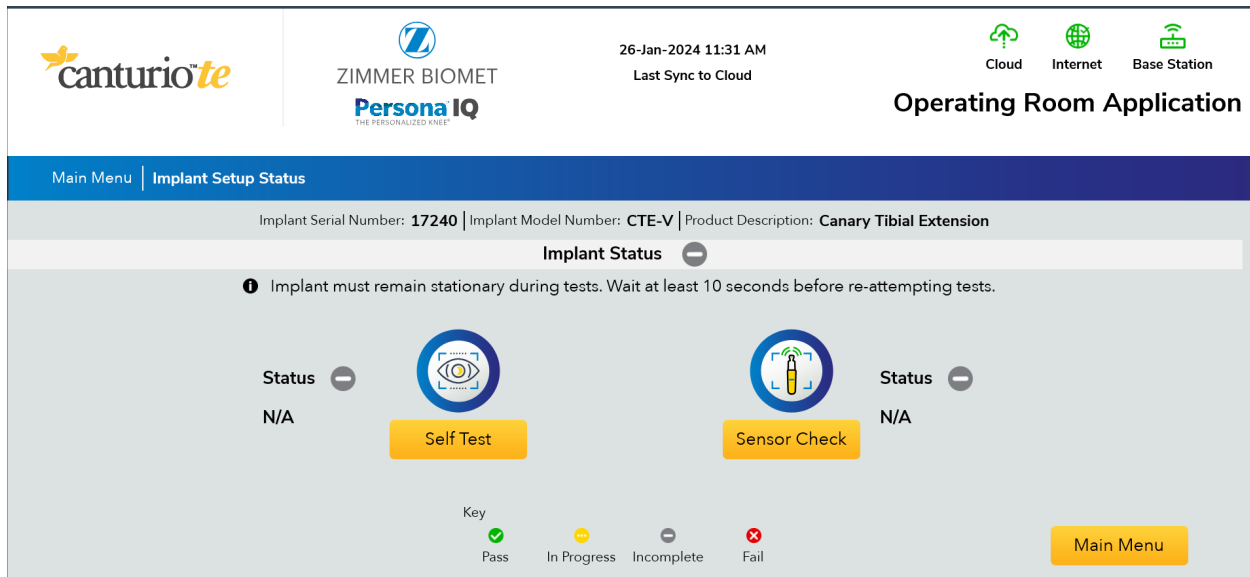

Figure 10: Self-Test
- a. Click on Self-Test (**Figure 10**). Upon initiation of a Self-Test the internal implant electronics perform a series of self-tests and system communication integrity checks for all essential functions. If any of the self-tests fail, the microcontroller will log a permanent and specific error code in memory. These logs are then uploaded and evaluated. A “pass” result is only possible if all self-tests were successfully passed. If any of the self-tests failed or if any other non-passing log was generated since the time of manufacturing, a “fail” result will be displayed.